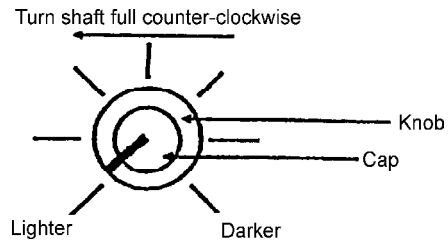

Figure 4
6. To replace the knob on the front panel, turn the adjustment shaft fully counterclockwise. Slip on the knob making sure the white indicator mark on the knob is aligned with the lowest setting mark (Lighter) on the control panel. Hold the knob securely in position and tighten with a spanner wrench. Snap on the knob cap aligning the indicator marks on the knob and cap. (Figure 4)